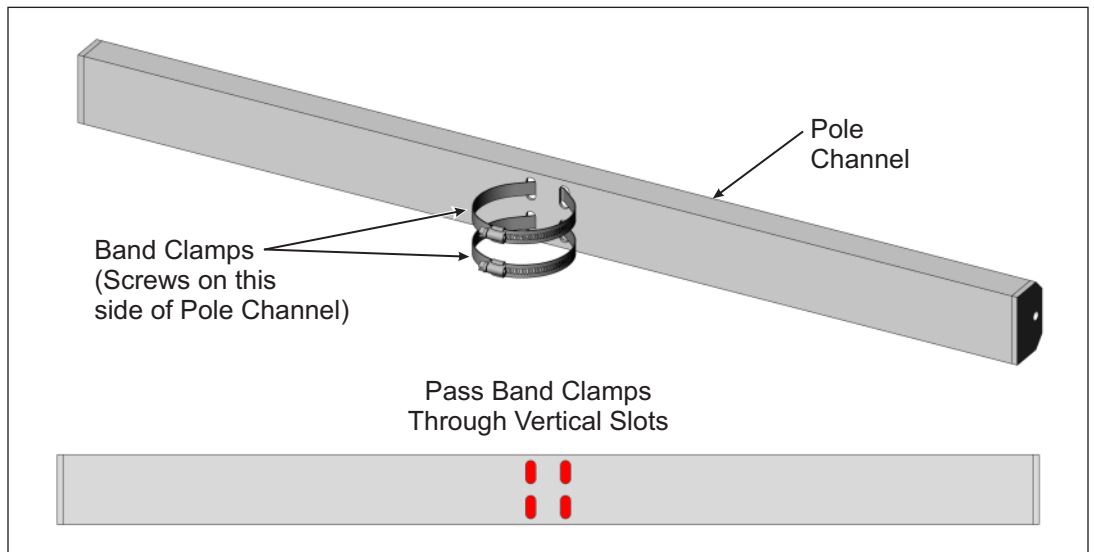

Figure 1-2: Installing Band Clamps on Pole Channel
- A. Unscrew the two Band Clamps and pass the loose ends through the two vertical slots of the Pole Channel, positioning the screw housing on the backside of the Pole Channel. Secure the loose ends by screwing them back into their screw housing. Complete this process on both Pole Channels. (See Figure 1-2)